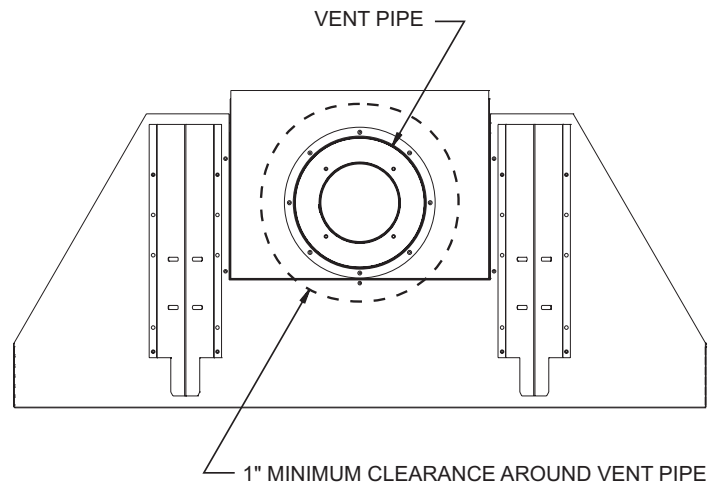

Figure 9
**Note:** Maintain one inch (1") of clearance around vertical vent pipe. **See Fig. 9.** For horizontal vent, maintain a minimum 1" clearance to the bottom and sides of the vent, and 3" clearance to combustibles above the vent pipe. **See Fig. 10**